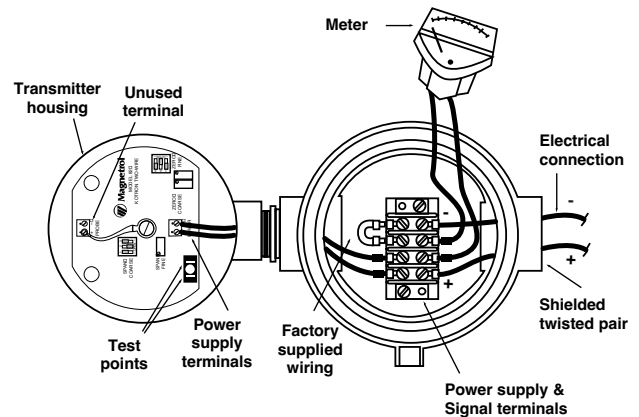

Figure 6
3. Remove the two screws in the meter bracket. The meter is attached by two wires to the terminal block underneath it. Pull meter gently out of the housing and lay the meter to one side, being careful not to disturb the wiring. See **Figure 6**.
4. Pull power supply wires through electrical connection on meter housing. Connect the positive supply wire to the (+) terminal and the negative supply to the (-) terminal on the terminal strip under the meter. See **Figure 6**.